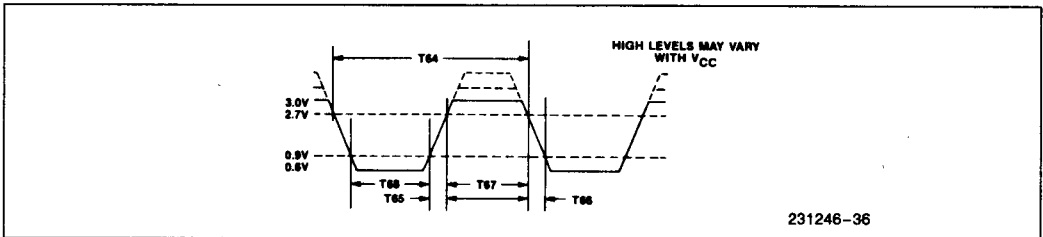

Figure 35. Rx̄C Input Voltage Levels for Timing Measurements *
15. 82C501 compatible levels, see Figure 35